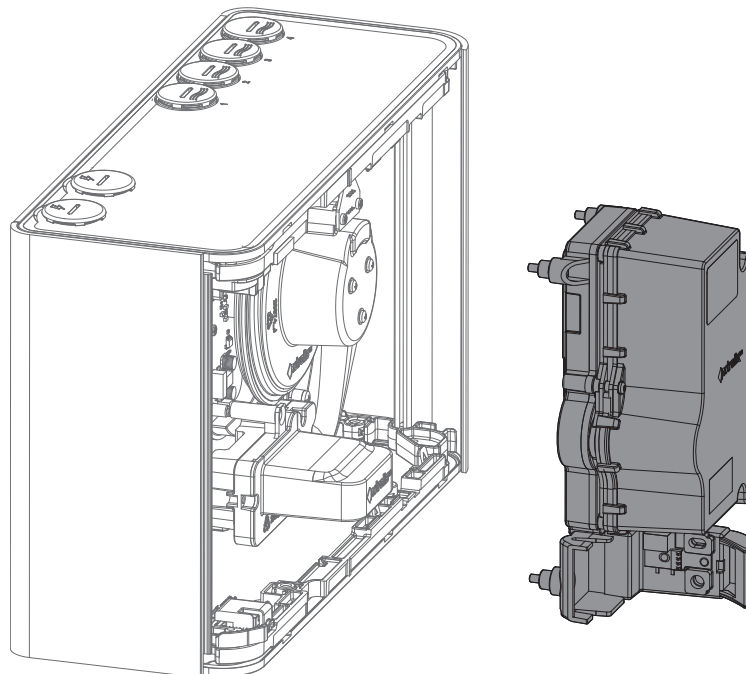

Figure 7-12: Remove the Chamber from the detector base
5. Remove the chamber from the detector base (Figure 7-12).